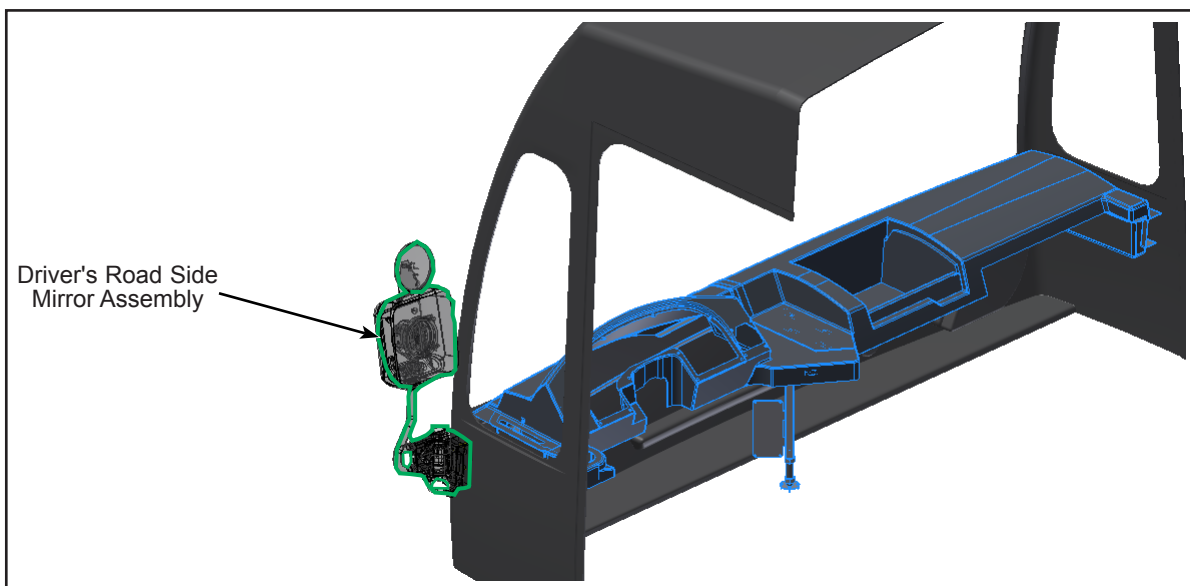

Figure 3 - Typical Mirror Assembly Location
- 1.4. Remove and retain the driver's road side mirror assembly. (see Figure 3).